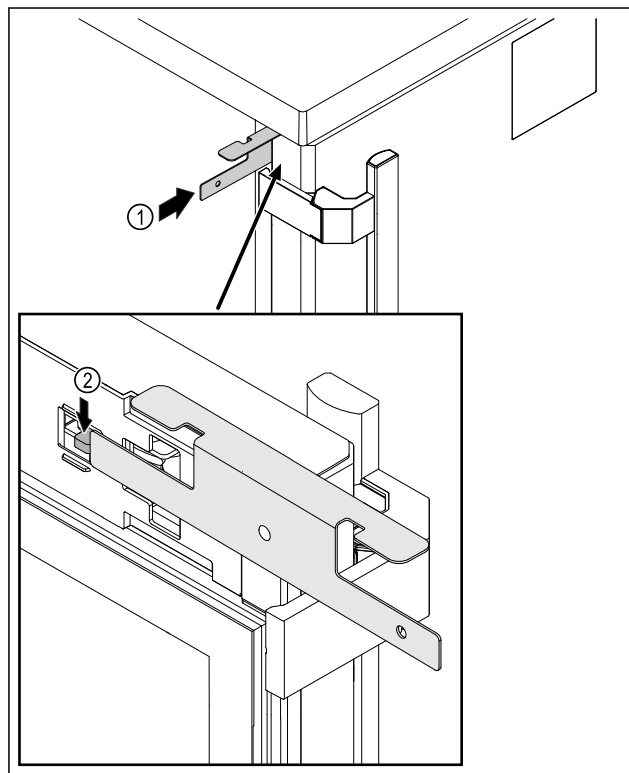

Fig. 218
- Insert the emergency release key Fig. 218 (1) between the door and the body of the appliance.
- Press the lock hook Fig. 218 (2) towards the hinge.